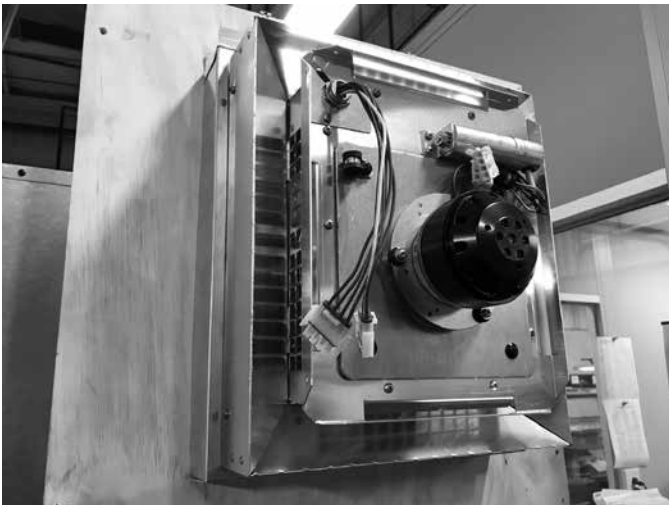

Figure 7.19
- Route wire harness through motor assembly and retaining plate, secure with Romex connector. Reattach retaining plate to motor assembly, (2) screws. Install motor assembly onto cap base and secure with (8) screws. See Figure 7.19.